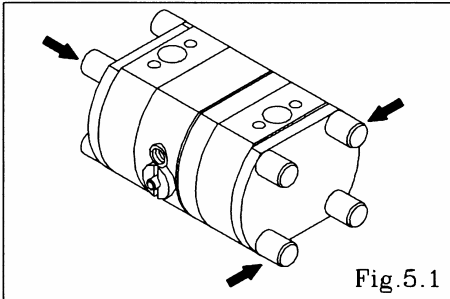

Fig.5.1
- Remove the 8 caps from the both sides of horizontal tie rods. [Fig.5.1]